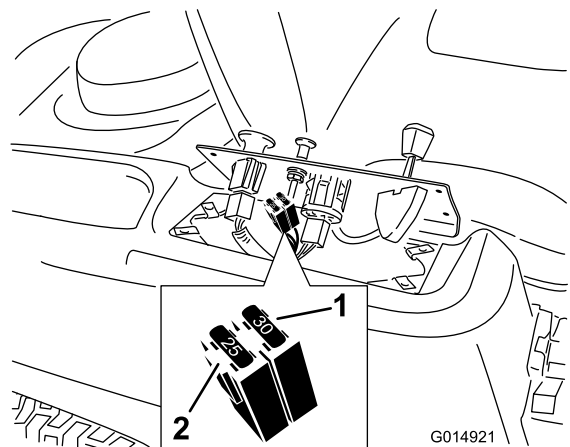

Figure 51
2. Lift the control pane up to access the main wire harness and fuse block (Figure 51).
3. To replace a fuse, pull out on the fuse to remove it (Figure 51).